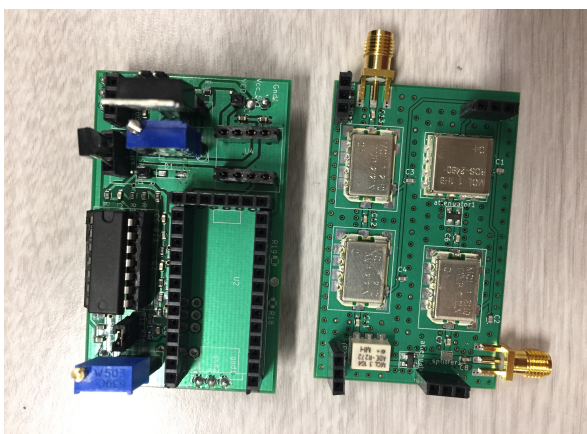
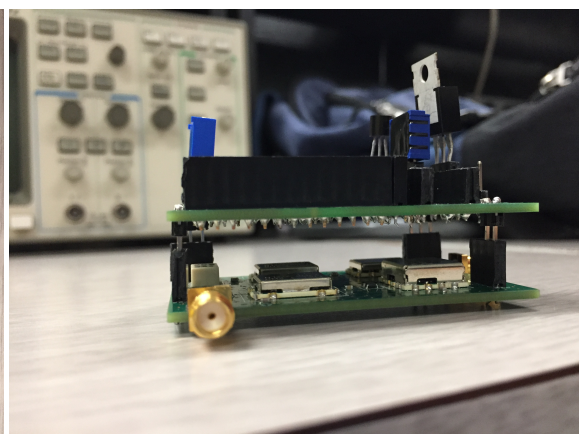

Fig. 1. Baseband & RF PCB
Fig. 2. Stacked PCB
**General Idea:** To make the system more compact and easier to debug, separate baseband and RF band circuits are recommended. Also, pin headers are great choice to make the connections between two PCBs as illustrated in Fig. 1 and Fig. 2